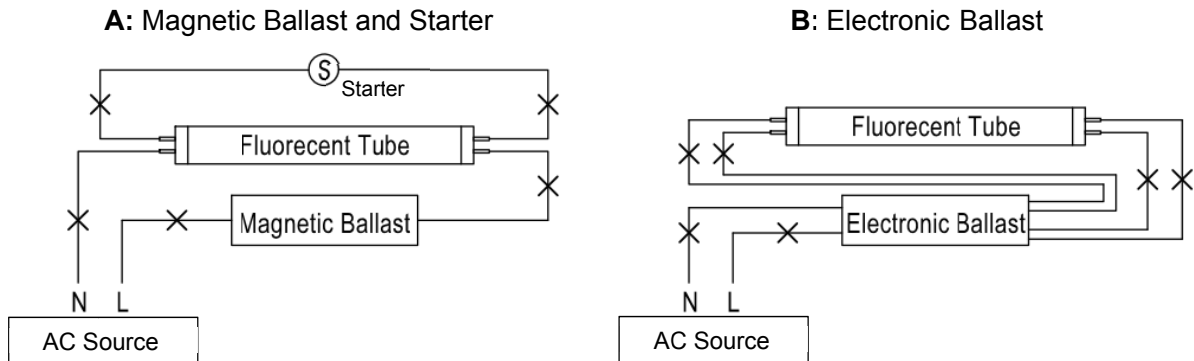

Figure 1
Step 3: Remove lens or diffuser cover (if applicable) and existing fluorescent lamps. Identify which ballast type is installed in the fixture, and disconnect the wire at that point as shown in Figure 1 (X marks).